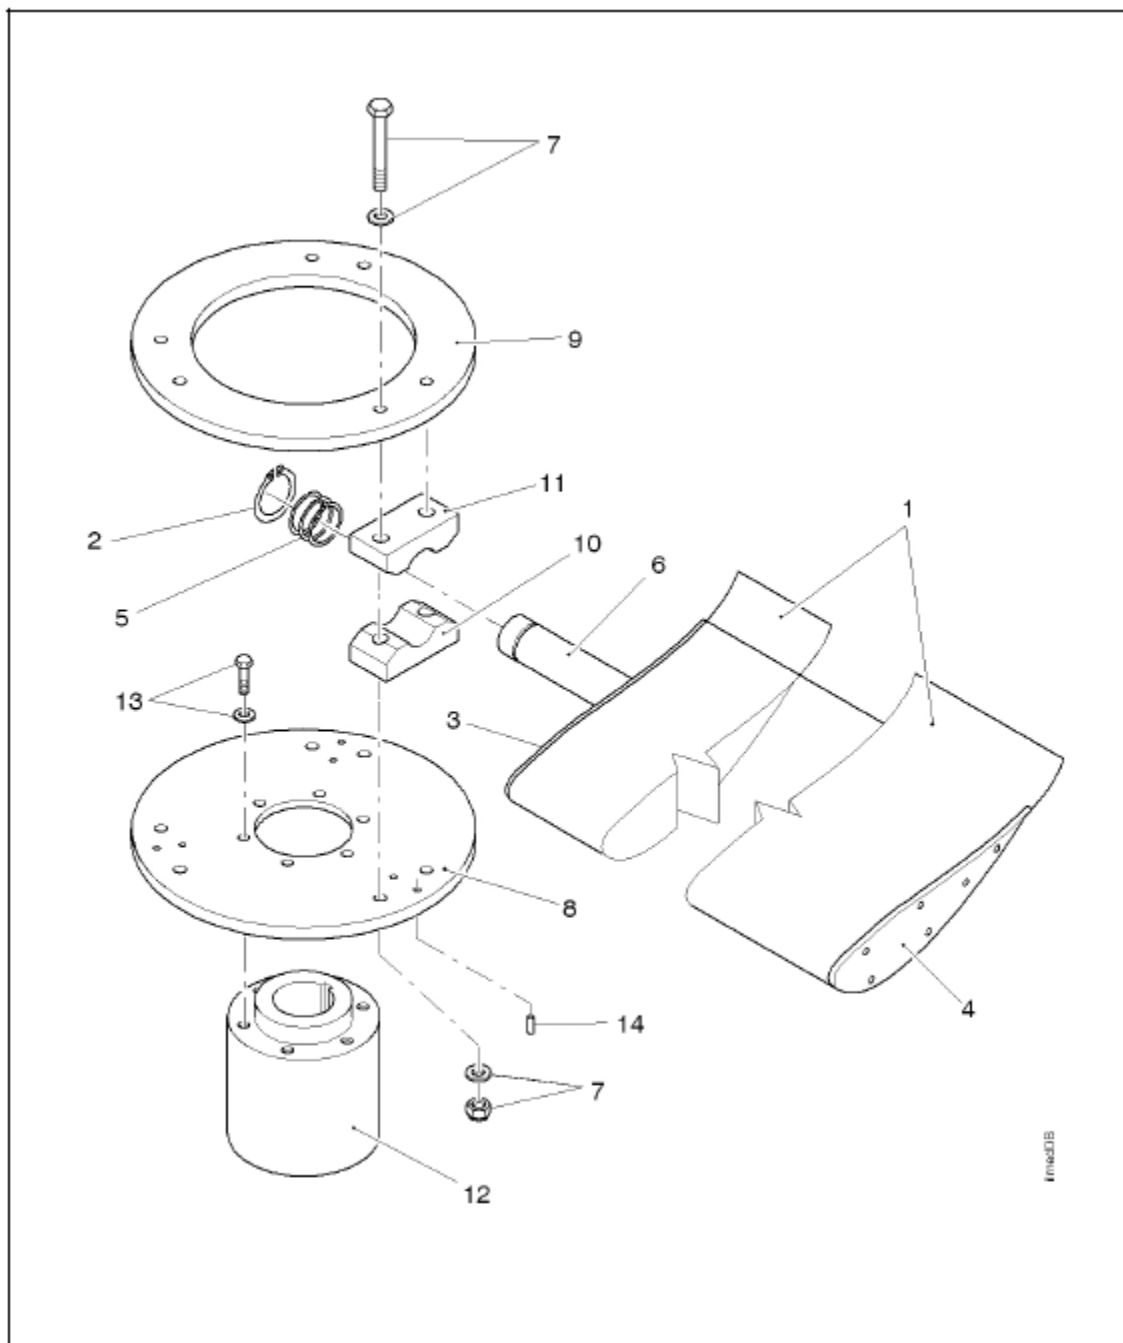

Figure 2-1: Main components of single disc impeller.
The single disc impeller is made of the following parts (refer to Figure 2-1):
2.2.3. SINGLE DISC IMPELLER DESCRIPTION (Figure 2-1)
Impeller (refer Figure 2-1) is made of a blade holder hub, a coupling bush, a support disc, a ring and a series of blades.